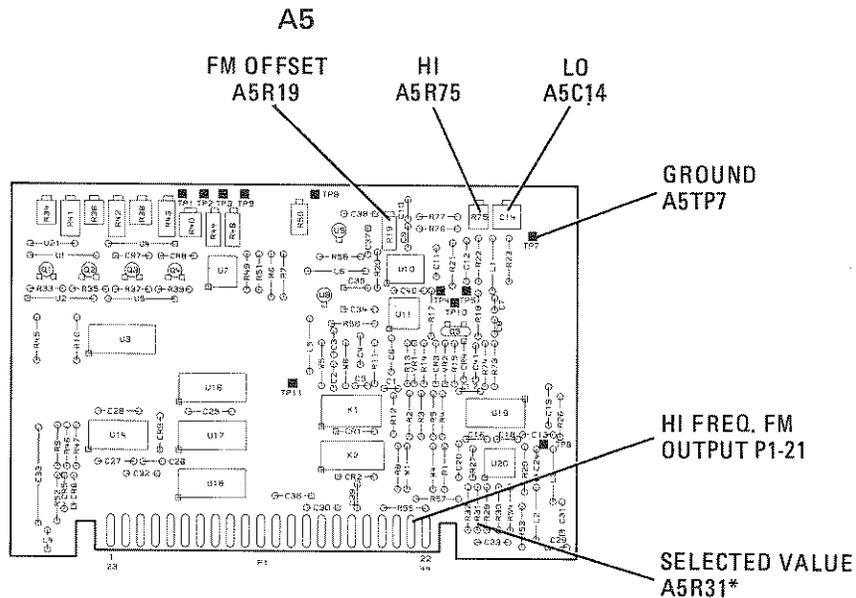

Figure 5-35. Location of A5 FM Driver Adjustments
3. Connect DVM between A5 board connector pin 21 and A5TP7 (ground). (See Figure 5-35.) Adjust A5R19 "FM OFFSET" control for zero Vdc  $\pm$ 1 mVdc.
8. Manually sweep function generator frequency from DC to 100 kHz. Select resistor A5R31 (Figure 5-35) so amplitude at 100 Hz and at 100 kHz are the same ±0.2 cm on CRT.
9. Manually sweep function generator frequency from DC to 10 MHz. Adjust A5C14 "LO" and A5R75 "HI" controls several times (Figure 5-35) to obtain the most constant overall response from DC to 10 MHz.